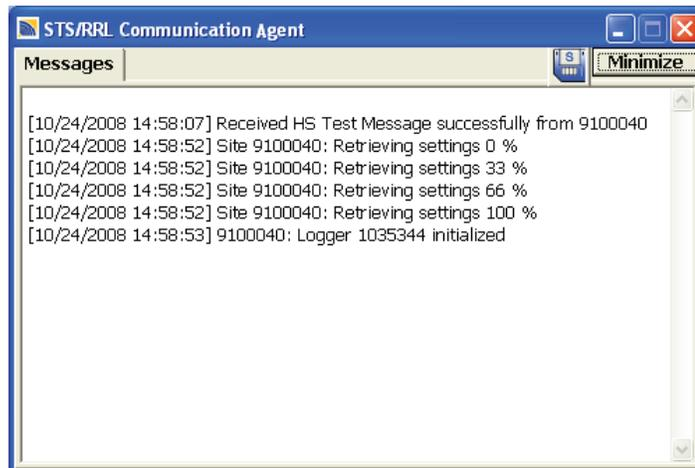

Figure 5-20 STS Communication Agent Showing a Successful Initialization
- 6) The initialization process should only take a few minutes. During the process the status of the STS Controller will change from “Idle” to “Init”. If initialization is successful, a message will be given and the STS Controller status will change from “Init” to “Logging” or “FUT.ST”. The System will start collecting data at the specified time. Figure 5-20 shows a successful initialization process as it appears on the STS Communication Agent.